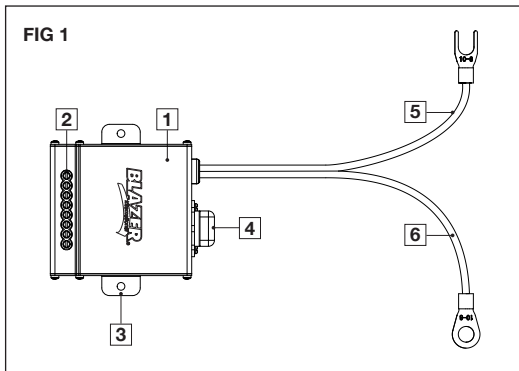

FIG 1
8. Attach the auxiliary lights/equipment following correct polarity on the terminals and not exceeding the maximum amperage of the channels. See **FIG 1** (on page 2)